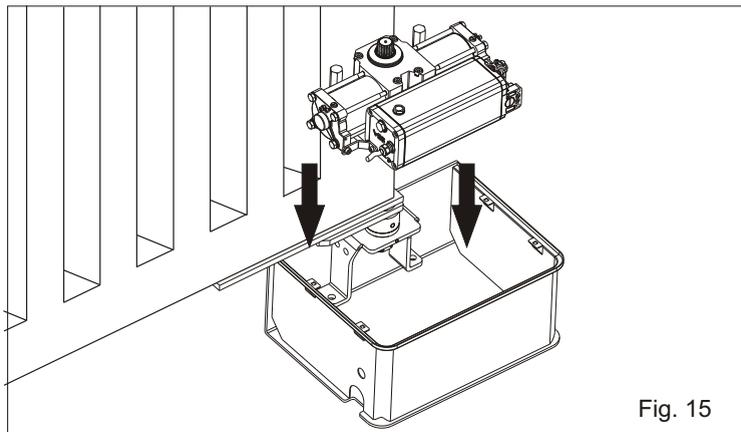
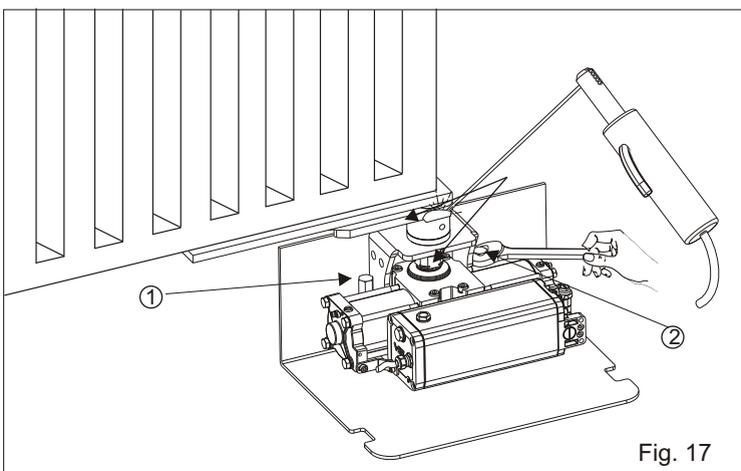

Fig. 15
Fig. 17
**4.1.** Insert manually the operator into the carrying box (Fig. 15) also insert the splined shaft of the operator into the splined bush of the box and fix the operator with the special screws as in Fig. 17.